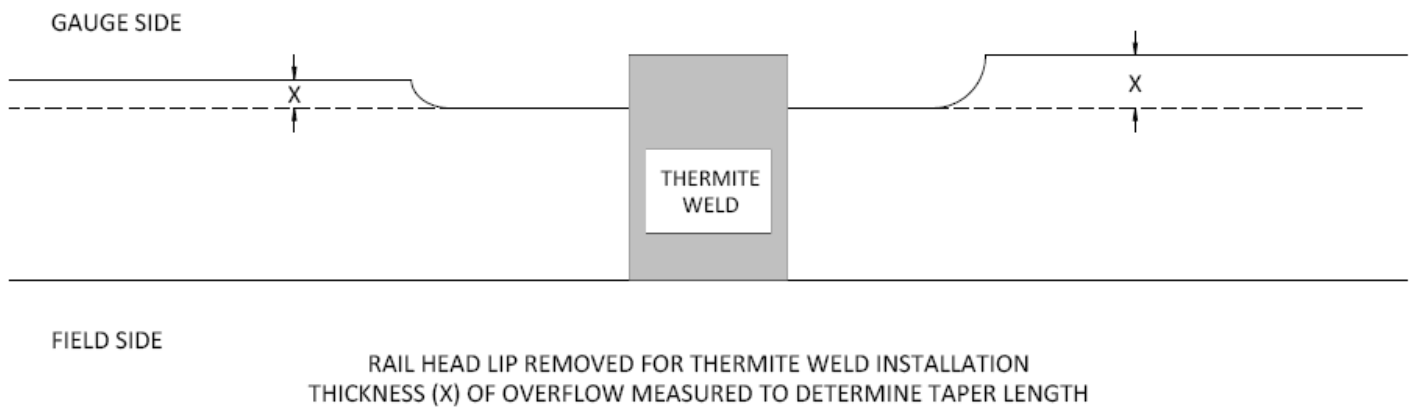

Fig. 29.9
- e. On head worn rail where the rail head flow has been removed on the gauge side to produce a Thermit[®] weld (Figure 29.9), the flow must be tapered back to provide a smooth transition